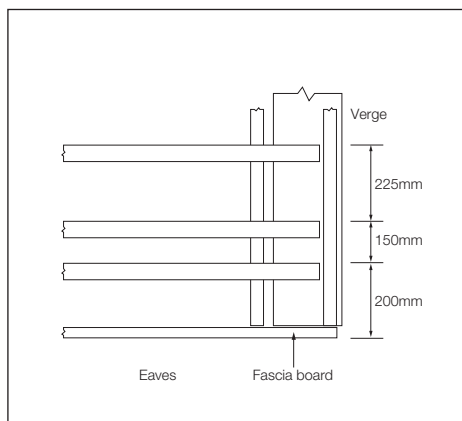

Fig. 7
- 1 Set out roof with battens gauged to suit a 225mm long first under-eave course, a 375mm long second under-eave course and general batten gauge of 225mm. Allow a 50mm eave overhang into gutter (Fig. 7).